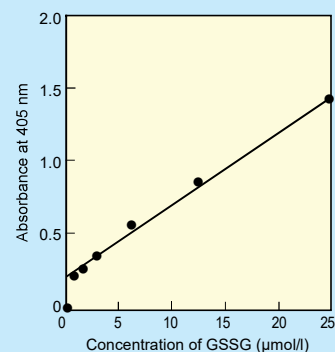

Fig. 2 Determination of the concentration of GSSG
5. Determine concentrations of GSSG in the sample solution using a GSSG calibration curve (Fig. 2).